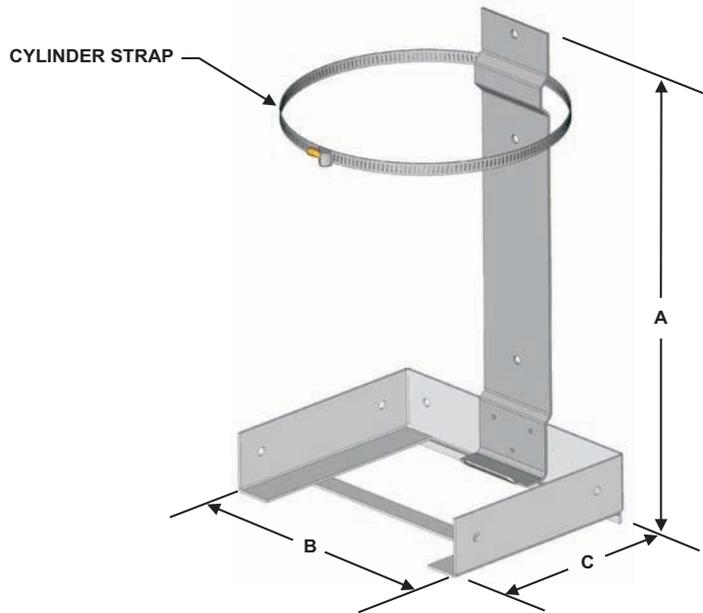

Figure 2-2. Wall Mounting Bracket
Mounting brackets are used for mounting all Cylinder and Valve Assembly. A cylinder strap is used to secure the cylinder to the bracket. The bracket is mounted to the wall using three (3) 3/8-inch diameter bolts or screws of suitable length and type. See Figure 2-2 and Table 2-2 for dimensions and load information.